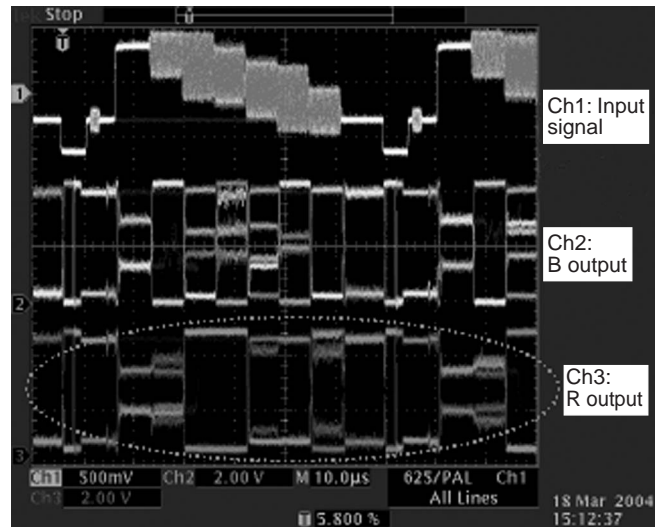
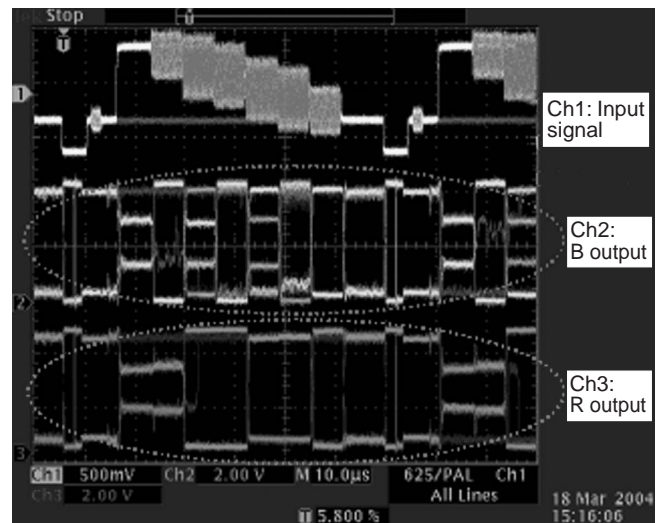
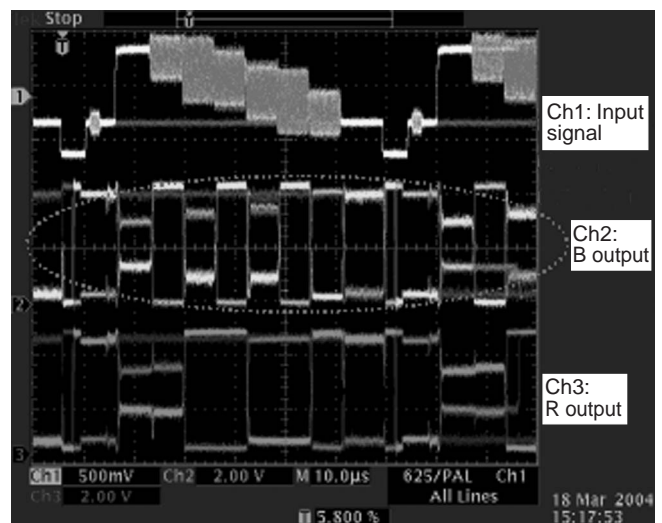

Fig. 1 (Ch1) Color bar
Fig. 2 After TINT adjustment
Fig. 3 After PHASE adjustment
(Refer to Fig. 1 and Fig. 2.)
- * In Fig 1, oscillation width of R-output and B-output of horizontal scanning period are not unified.
- In Fig. 2, however, the oscillation width of horizontal scanning periods are unified.
Monitor B-output and vary the Phase values and adjust so that oscillation width for horizontal scanning period would be unified, using the UP/DOWN key of the remote controller. (Refer to Fig 2 and Fig. 3.)
* In Fig. 2, B-output oscillation widths are not unified.
In Fig. 3, however, the oscillation width of each horizontal scanning period of B-output are unified.